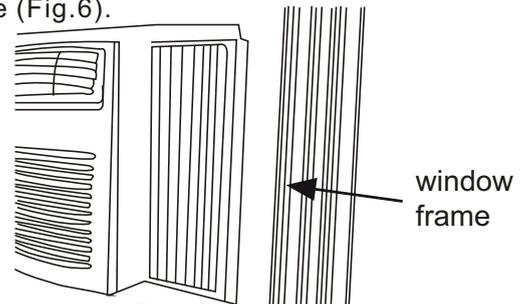

Fig.6
- Extend the side panels out against the window frame (Fig.6).